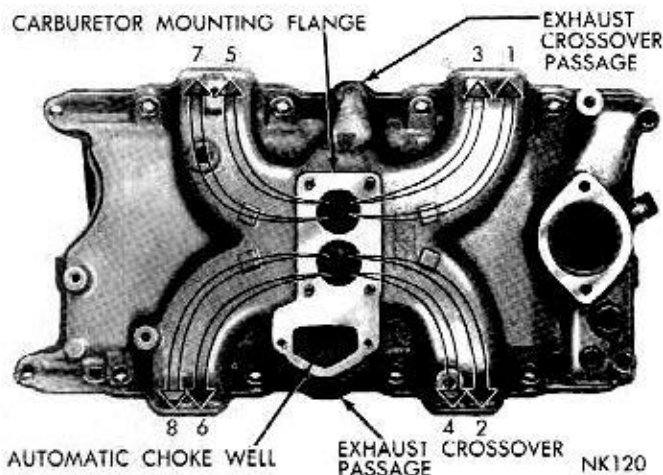

Fig. 9—Intake Manifold—318 Cubic Inch Engine
(1) Clean manifold in solvent and blow dry with compressed air. Inspect manifold for cracks.
(2) Inspect mating surfaces of manifold for parallelism with a straightedge.
(3) Inspect exhaust crossover passages through manifold (Fig. 9). If passages are coated with hard, black carbon, they should be scraped clean and sand-blasted to remove the carbon deposits.